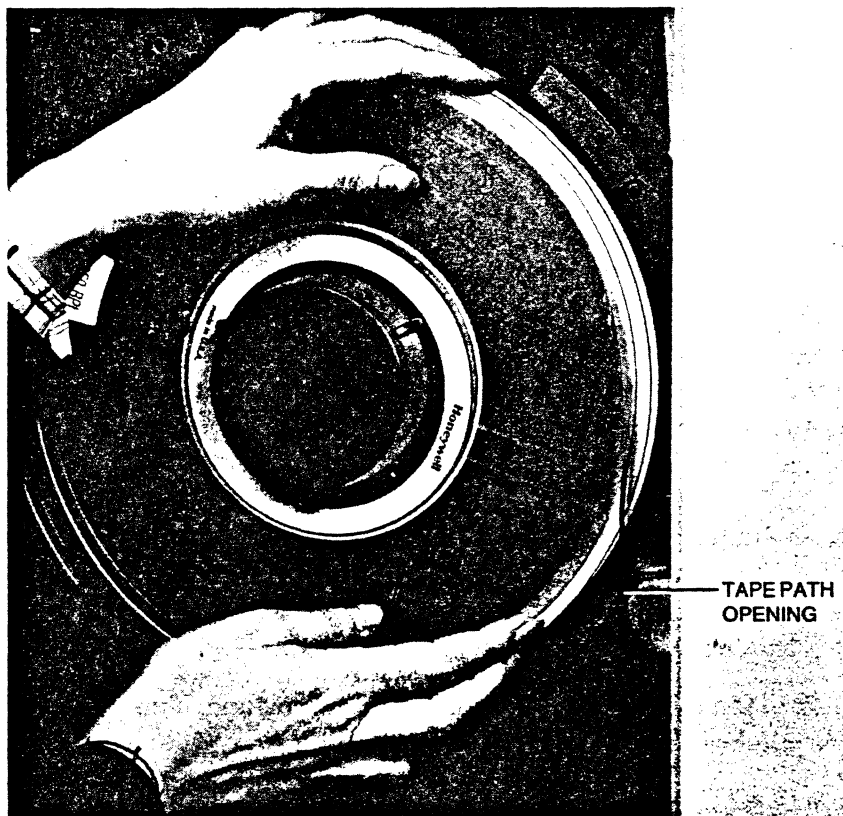

Figure 3-3. Manually Positioning Tape Leader
4. Manually rotate the file reel clockwise, feeding the tip of the tape into the tape path opening (see Figure 3-3).